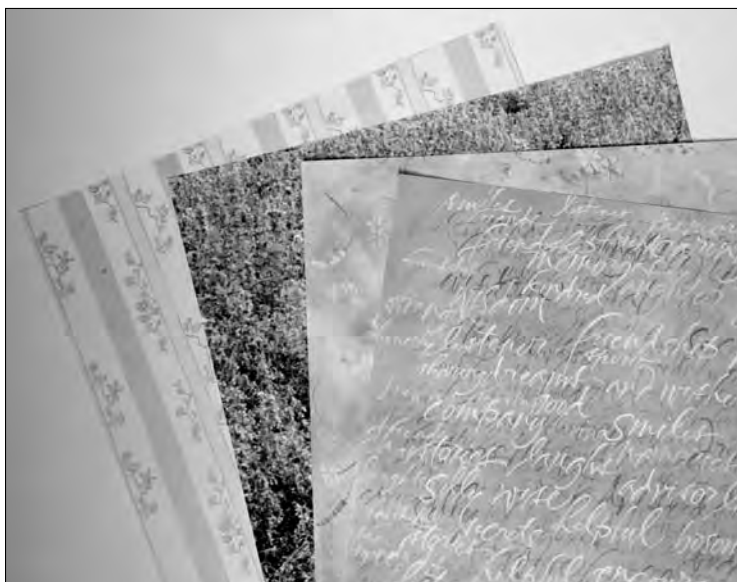

Figure 2-2:
- ✓ **Precolored papers:** A whole variety of different colored papers can make perfect additions to the paper engineer's workshop. Both paper and card are available in a variety of solid colors, as well as preprinted patterns and graduated color changes. Combining these pro papers can make your paper-engineering projects look even more fantastic. See Figure 2-2 for some patterns.